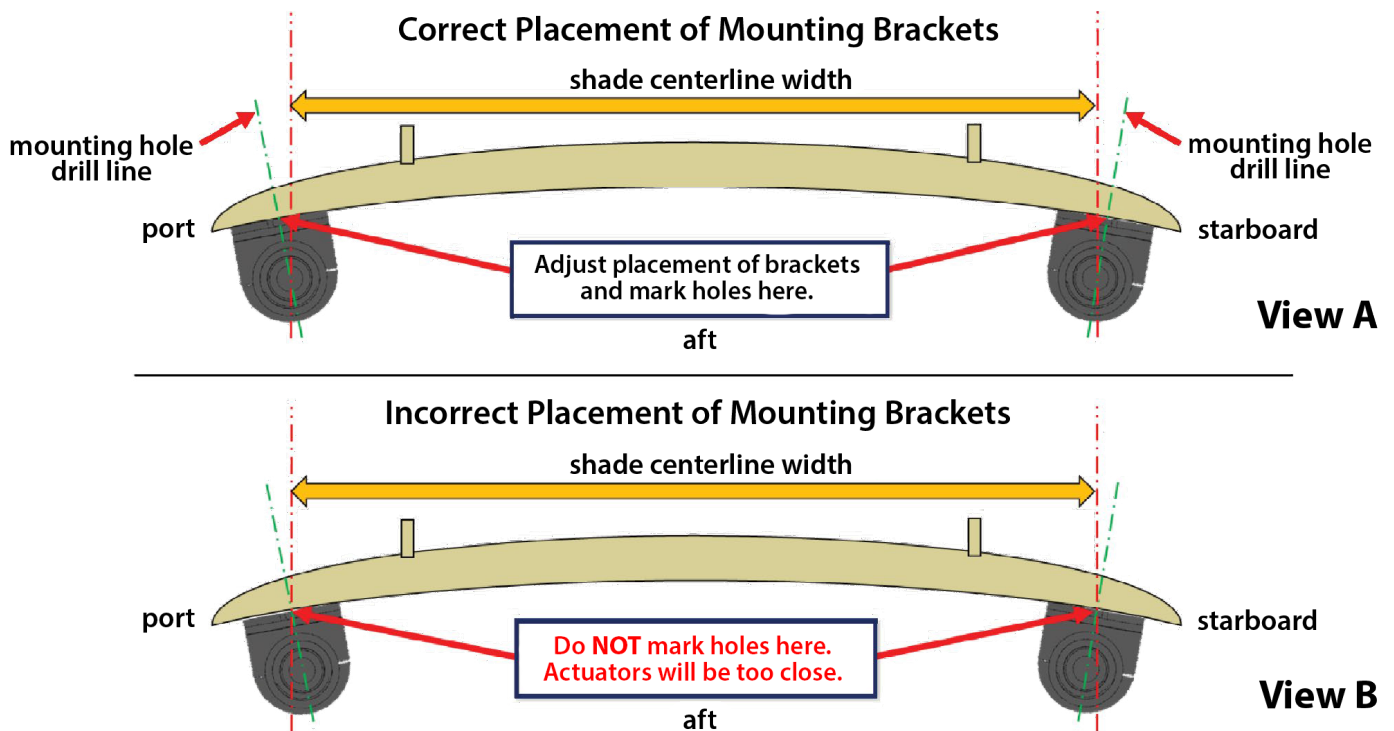

Fig.10
**B.** To determine mounting hole location for an underside surface mount on a hardtop with curvature\*, see figure 10. The mounting holes will ultimately be drilled wider than the shade centerline.
**B.** For curved surface mount\*, drill on an angle perpendicular to surface (Fig.10, VIEW A).